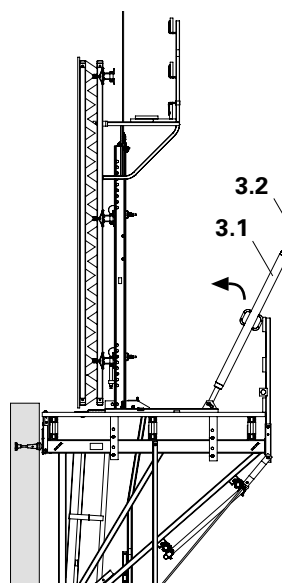
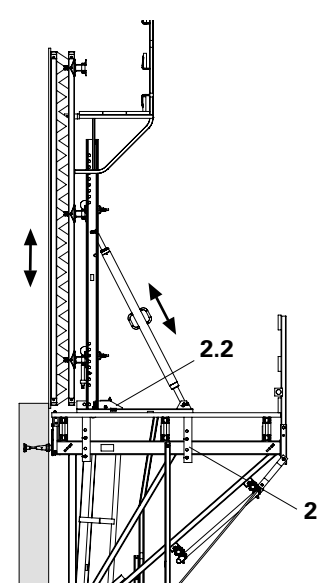

Fig. B2.08
Fig. B2.09
6. Fix Adjustable Brace (3.1) to Strongback with bolts $\varnothing 25 \times 180$ and cotter pins (3.2). (Fig. B2.08)
9. Move Carriage (2) with formwork forward to the wall and secure Carriage with wedge (2.2).
10. Align formwork. (Fig. B2.09)